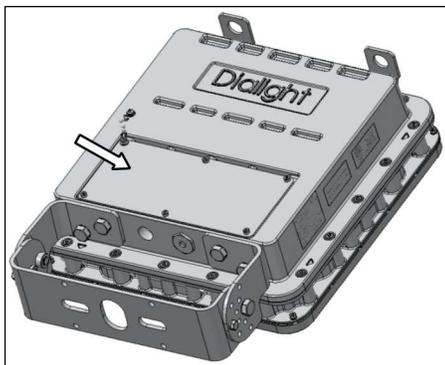

Fig.5
1. Once the light fixture has been mounted in place, remove access cover [Fig.5]
4. Replace access cover [Fig.5] recommended torque _ 13 in.lb [1.5 Nm]